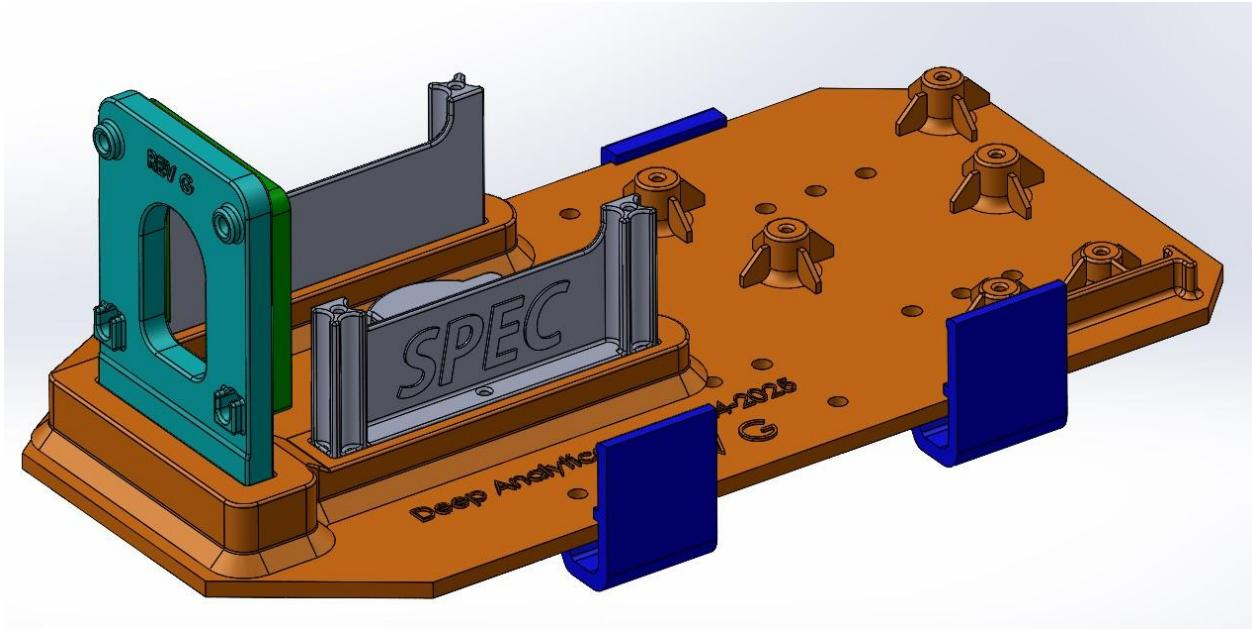

Figure 2. 3D printed sled.
11. 3D printed sled for mounting the Pi, camera and IMU. Download STL files – see Figure 2.